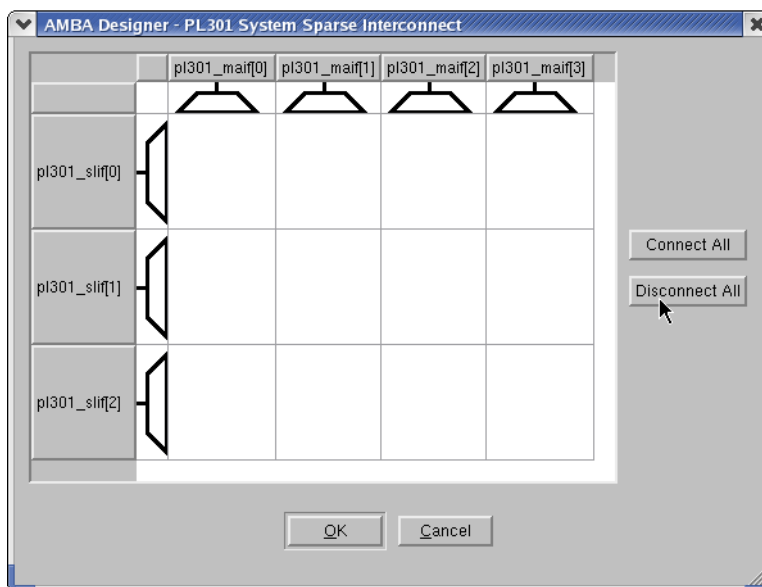

Figure 4-20 Unconfigured sparse interconnect
3. Click on **Disconnect All** to remove all connections in the interconnect, as Figure 4-20 shows.